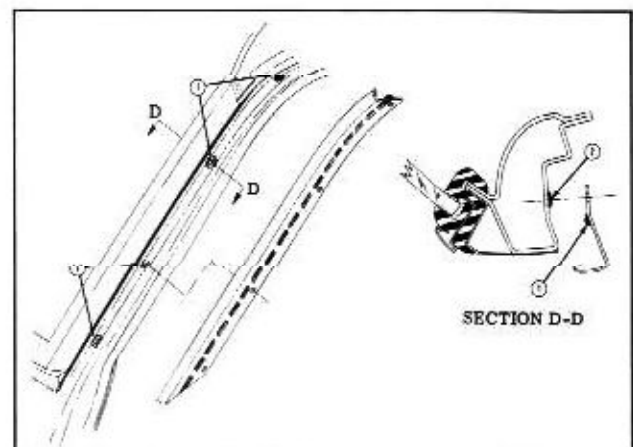

Fig. 15-12 Windshield Pillar Drip Molding Sealing
1. Remove screws securing drip molding. (Fig. 15-12), and remove molding.
- To install, apply medium-bodied sealer to screw attaching holes and to drip molding as indicated in Fig. 15-12.